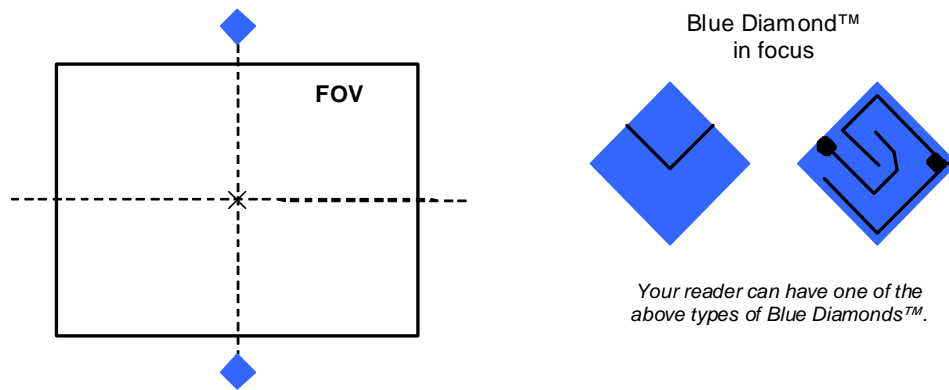

Figure 8 – Focus Function Using Blue Diamonds™
- a. Adjust the Focus ring towards the "Near position" until the Blue Diamonds™ are perfectly in focus, see Figure 8.